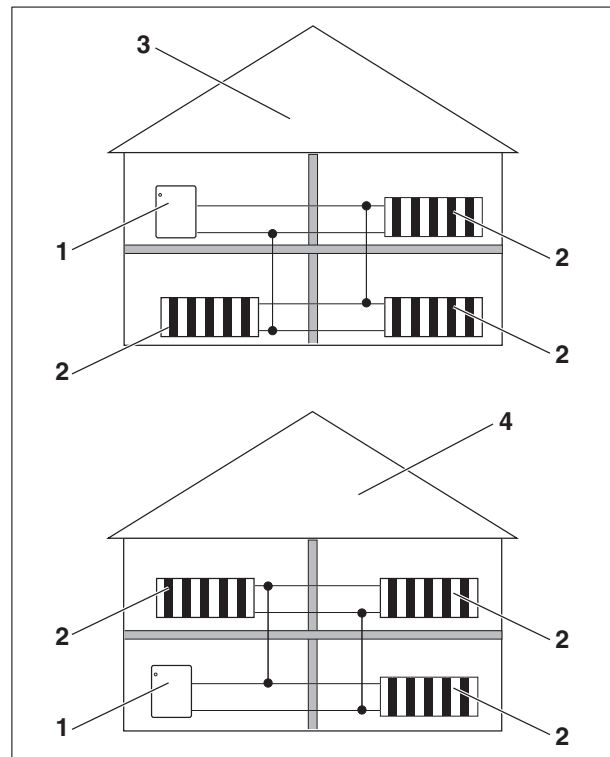

Fig. 8 Low-water cut-off
- The low-water cut-off must be used when the boiler is installed (→ Fig. 8).